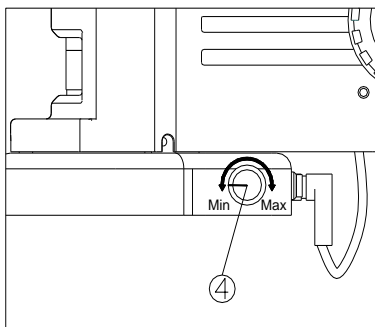

Fig.7
- 2) Rotate the light adjustment knob ④ to adjust the illumination brightness. Rotate the light adjustment knob clockwise to raise the brightness, while counter-clockwise to decrease the brightness. (See Fig.7)